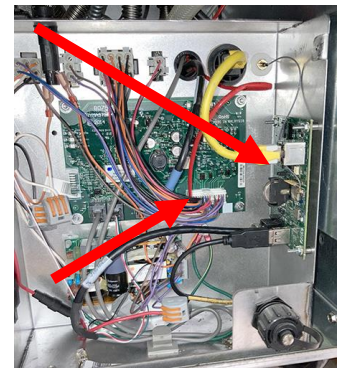

Figure 6
5. The KCCM board is located on the right side or rear of the FIB box (see Figure 6) depending on date of manufacture. Prior to starting, disconnecting the J1 harness may provide easier access to the RJ connectors on the FIB board (see Figure 6 & 6A).